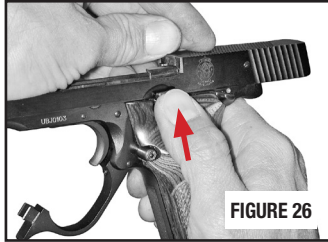

FIGURE 26
- Lock the slide in the open position by allowing the slide to come forward slightly as you push up on the slide stop (FIGURE 26).